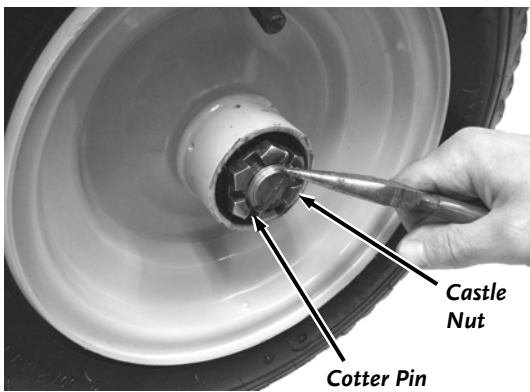

Figure 59
12. Screw the Castle Nut onto the Axle and tighten it with an adjustable wrench to seat the Bearings (**Figure 59**).